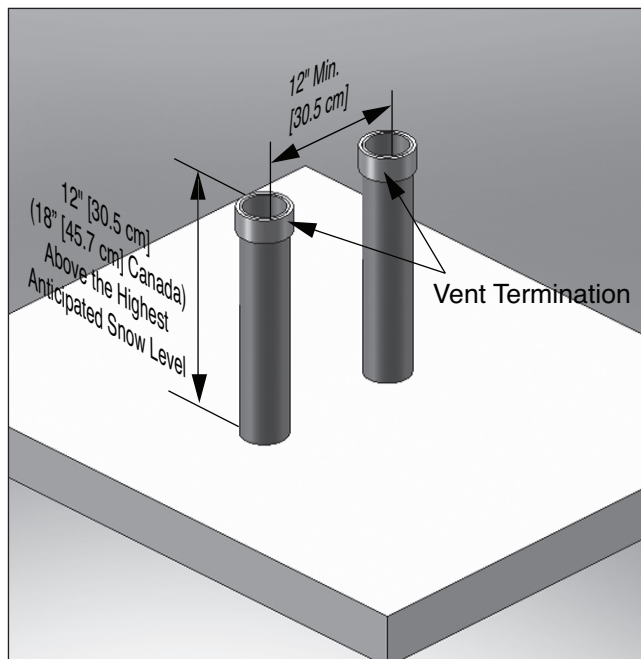

Fig. 16 - Category IV- Vertical Termination of Multiple GALLANT Boilers
2. Each vent termination must be a minimum 12 in. [30.5 cm] from the adjacent termination for installations in the U.S. as shown in *Fig. 16 below*. For installations in Canada, provide clearances as required by CAN/CSA B149.1.